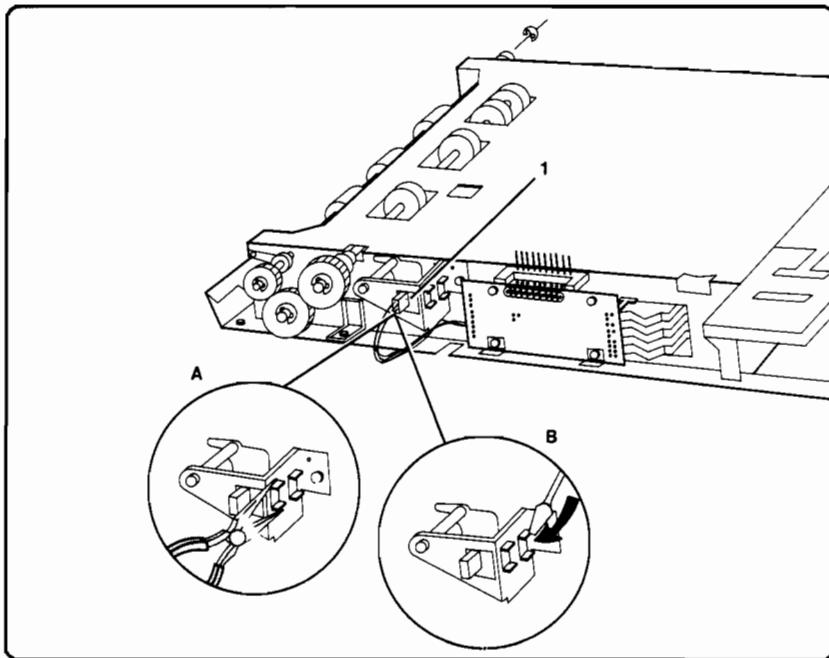

Figure 6-13. LC Paper-Out Photosensor (PS6) Removal
4. Unplug the cable connector from PS6 (see Figure 6-13, callout 1).
5. Remove PS6 from its bracket using a pair of needle nose pliers and/or a small flat-head screwdriver (see Figure 6-13, details A and B).